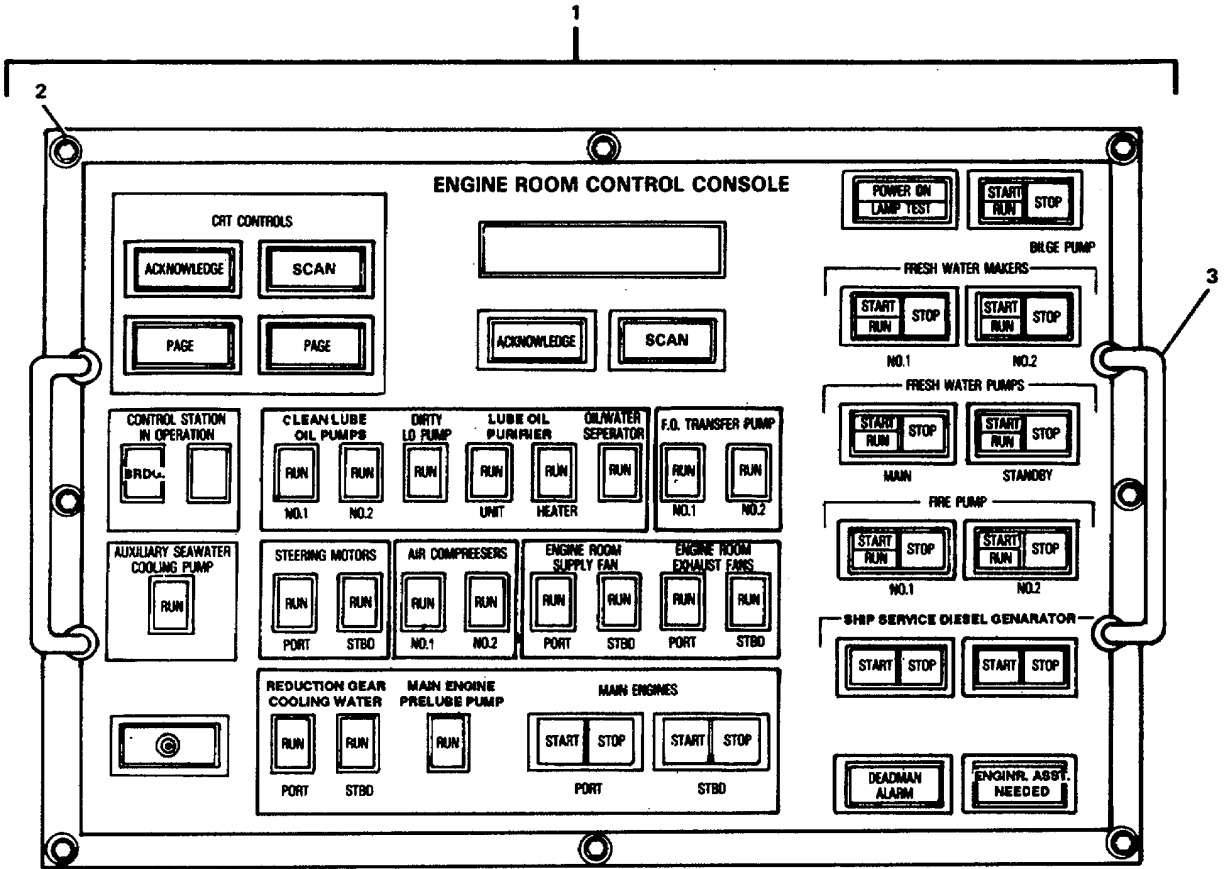

FIGURE 3-109. Engine Room Panel Assembly.
**3-122. Replace/Repair Engine Room Panel Assembly. (Figure 3-109)**